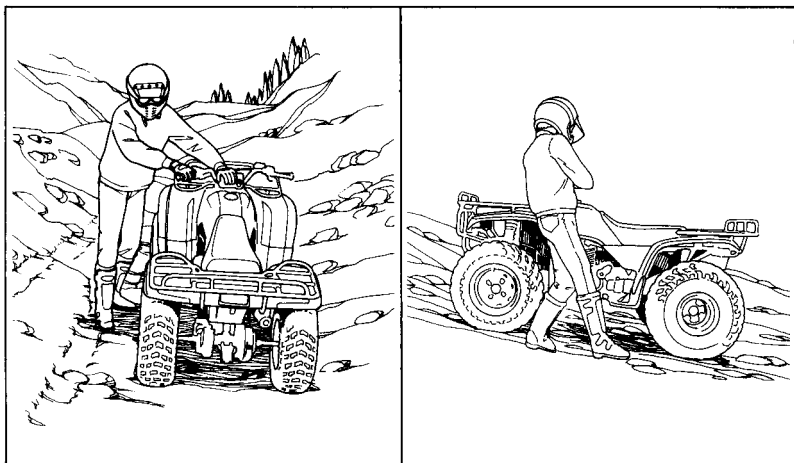

Fig. 3-11 Be sure your legs are clear of the wheels.
1. Stand with your body facing downhill, beside the vehicle so you can reach the rear brake lever with your right hand (See Figure 3-11.)